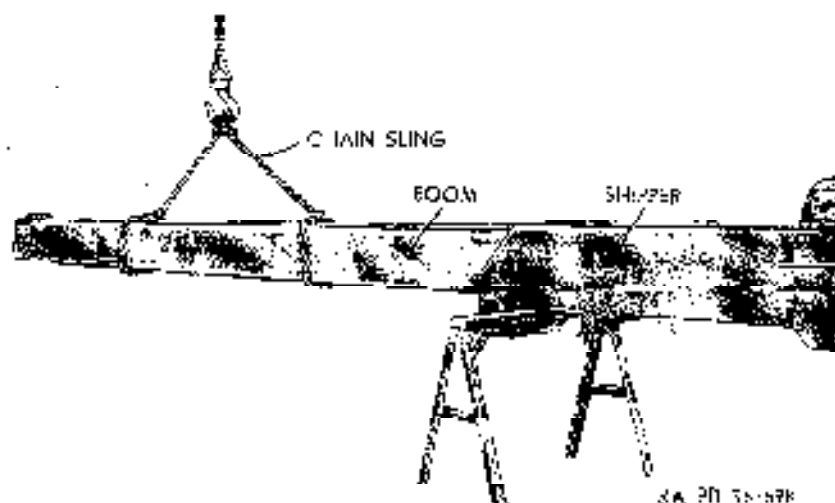

FIGURE 303. REMOVING BOOM FROM SHIPPER HOIST.
- (2) Using overhead hoisting equipment, raise the boom and shipper assembly to the extreme upward position.
- (3) Loosen locknut (fig. 303) and set-screw, and drive out lift cylinder pivot pin.
- (4) Align pivot shaft, bore in upper end of lift cylinder piston rod (fig. 303) with pivot shaft holes in shipper, and install lift cylinder pivot shaft. Tighten locknut and screw on underside of shipper.
- (5) Lower boom and shipper assembly to the horizontal position, and remove overhead hoisting equipment.
- (5) Pull boom (fig. 303) from shipper only far enough to attach a chain sling, attach sling, and support with overhead hoisting equipment.